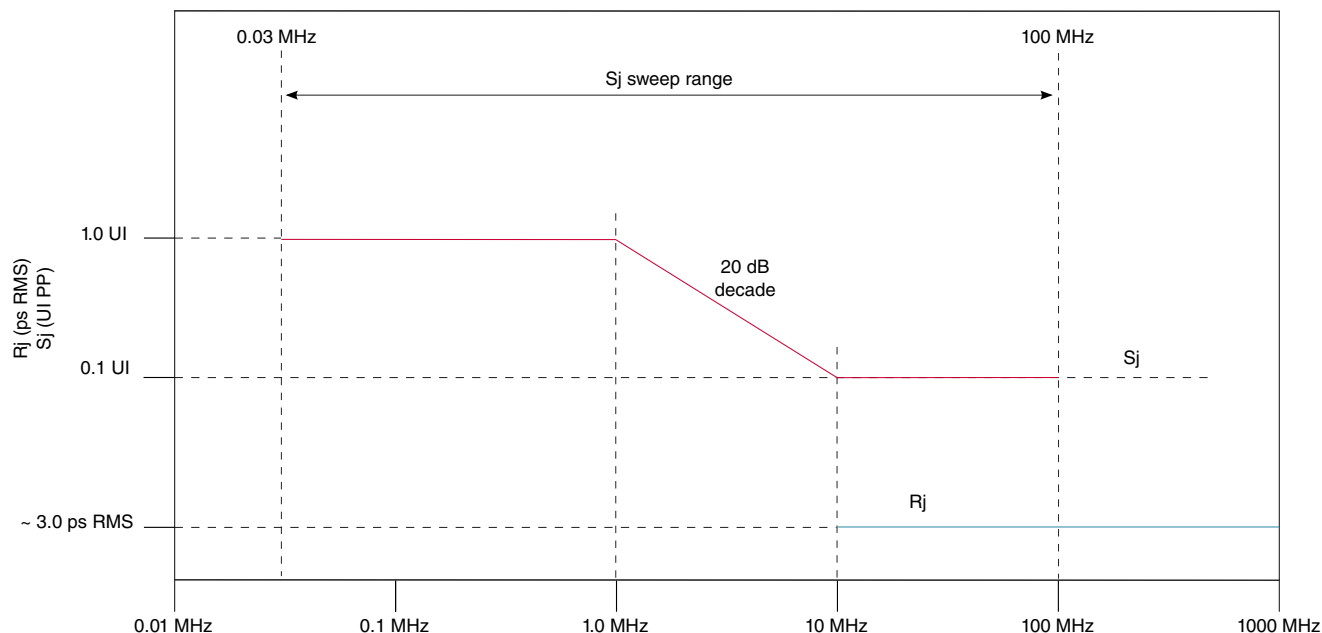

Figure 40. Swept sinusoidal jitter mask
3. The sinusoidal jitter in the total jitter tolerance may have any amplitude and frequency as shown in Figure 40.
4. Random jitter (Rj) is applied over the following range: The low frequency limit may be between 1.5 and 10 MHz, and the upper limit is 1.0 GHz. See Figure 40 for details. Rj may be adjusted to meet the 0.3 UI value for T_{RX-SV-8G}.